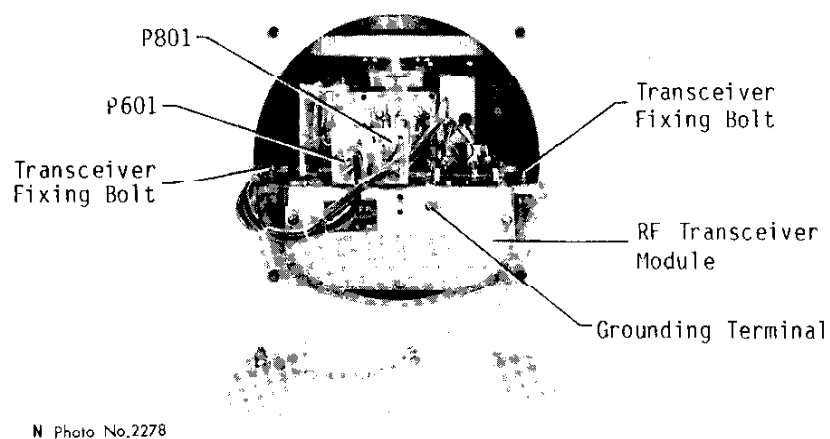

Fig.5-3 Scanner Unit (Front cover opened)
7. Open the scanner housing covers by removing the four bolts. Remove two transceiver fixing bolts and disconnect plugs P601 and P801; take out the transceiver module. See Fig.5-3 on page 5-6.